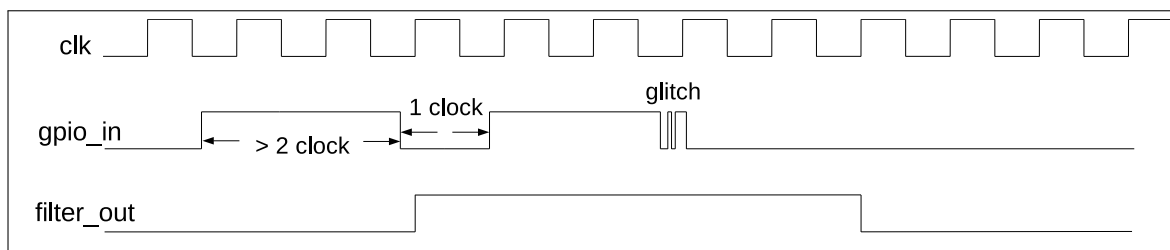

Figure 5.4-2. Filter Timing of GPIO Input Signals
2. Optionally enable the filter for pin input signals by setting the register `IO_MUX_GPIO n _FILTER_EN`. Only the signals with a valid width of more than two clock cycles can be sampled, see Figure 5.4-2.